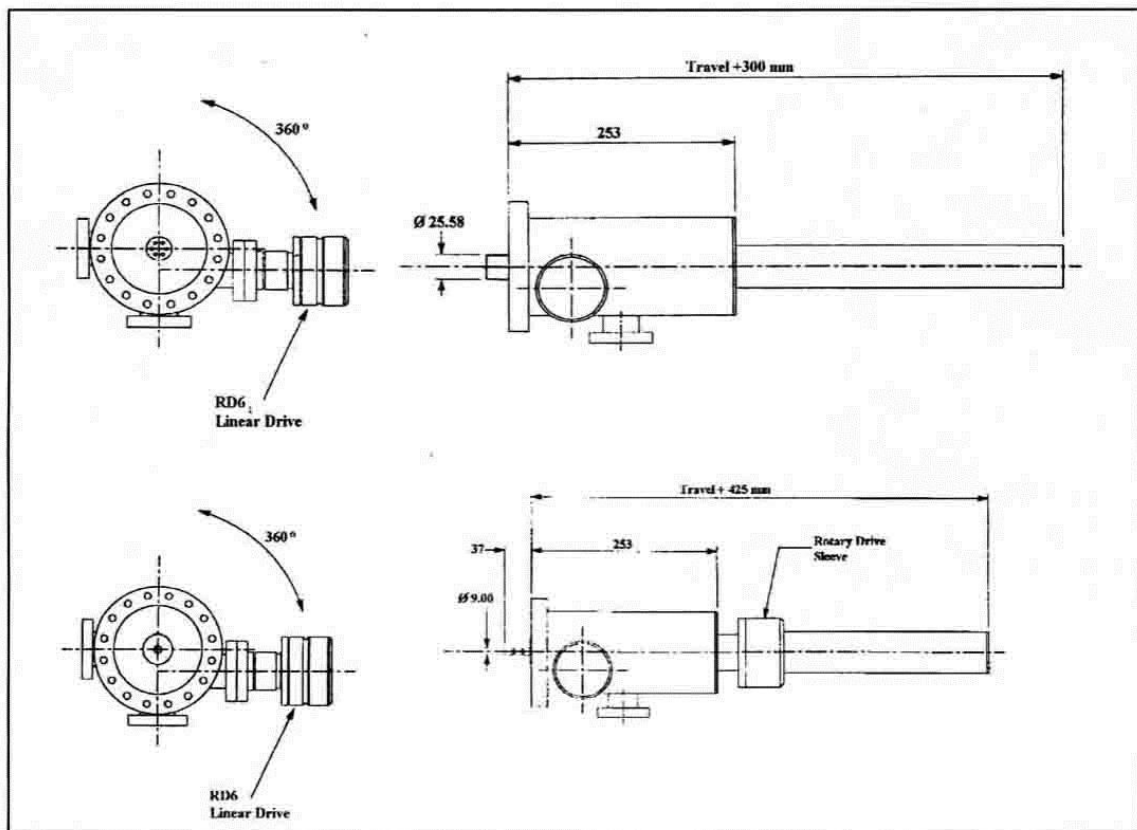

Figure 2 - LRP6 and RLRP6 Transporters
2.2 Specification for LRP6 and RLRP6 Series (see Figure 2)